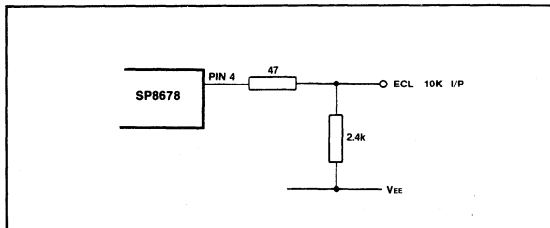

Fig.7 SP8678 to ECL 10K interface
5. The emitter follower output includes an internal 3k pulldown resistor and is compatible with ECL II, but can be interfaced with ECL III/10K by the inclusion of two resistors. See Fig. 7.